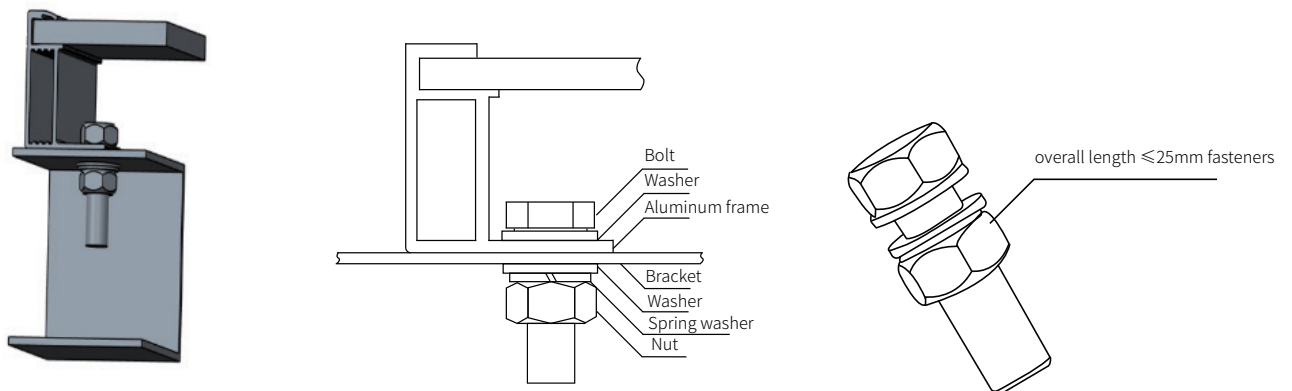

Figure 5 Bolt Installation of Mono-facial Modules
Apply bolts to fix modules on the bracket through mounting holes on the back-side frame. See details in Figure 5.
(2) When using LONGi 30 mm height frame module,(Figure 5) it is recommended to select overall length $\leq 25\text{mm}$ fasteners. (If there is a special model, consult LONGi customer service personnel).